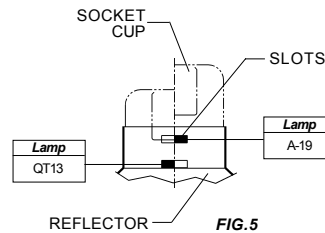

FIG. 5
. 1000 Serie: See Fig. 5
a) If using FLEXIBLE CONDUIT: Use a BX connector (not provided). (Fig.5)